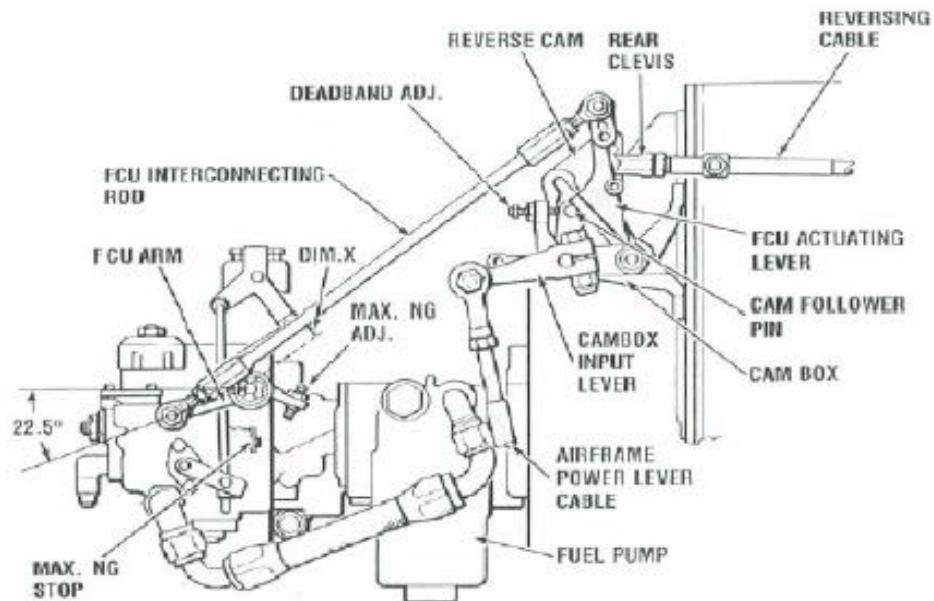
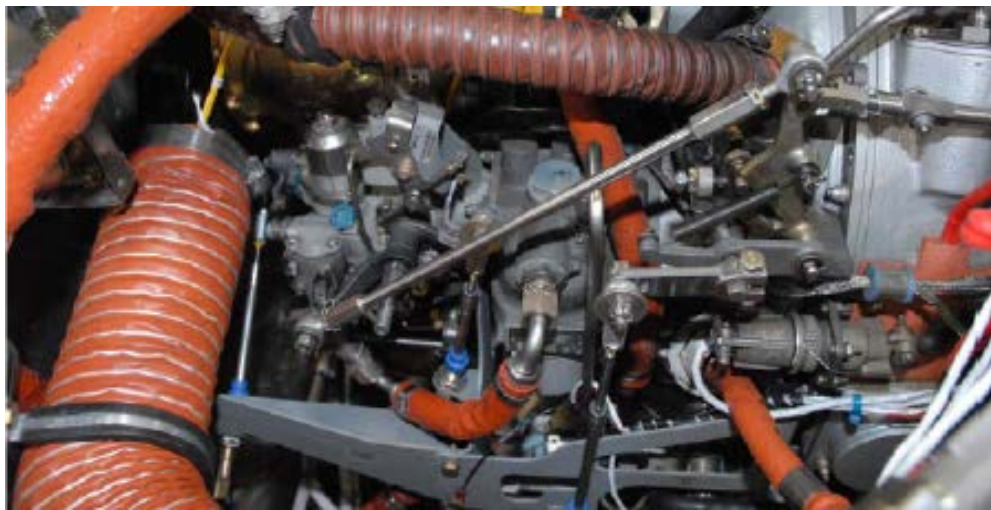

Figure 76-21 - Rear Linkage Overview
Figure 76-22 - Rear Linkage Overview with Actual Brackets
- A. One of the most important steps in the rigging process is to establish the proper relationship between the idle position of the power lever in the cockpit, and the idle position of the cambox. If this step is carefully set from the beginning, the amount of time spent "tweaking" the rigging after the first engine run can be significantly reduced. In the following steps refer to **Figure 76-21** and **Figure 76-22**.